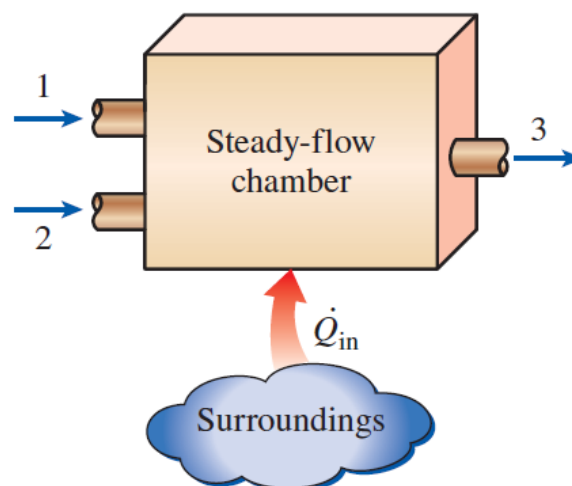

Figure Q3. Schematic diagram of the problem.
- Q3.** Two mass streams of two different ideal gases are mixed in a steady-flow chamber while receiving energy by heat transfer from the surroundings, as shown in **Figure Q3**. The mixing process takes place at constant pressure with no work and negligible changes in kinetic and potential energies. Assume the gases have constant specific heats.